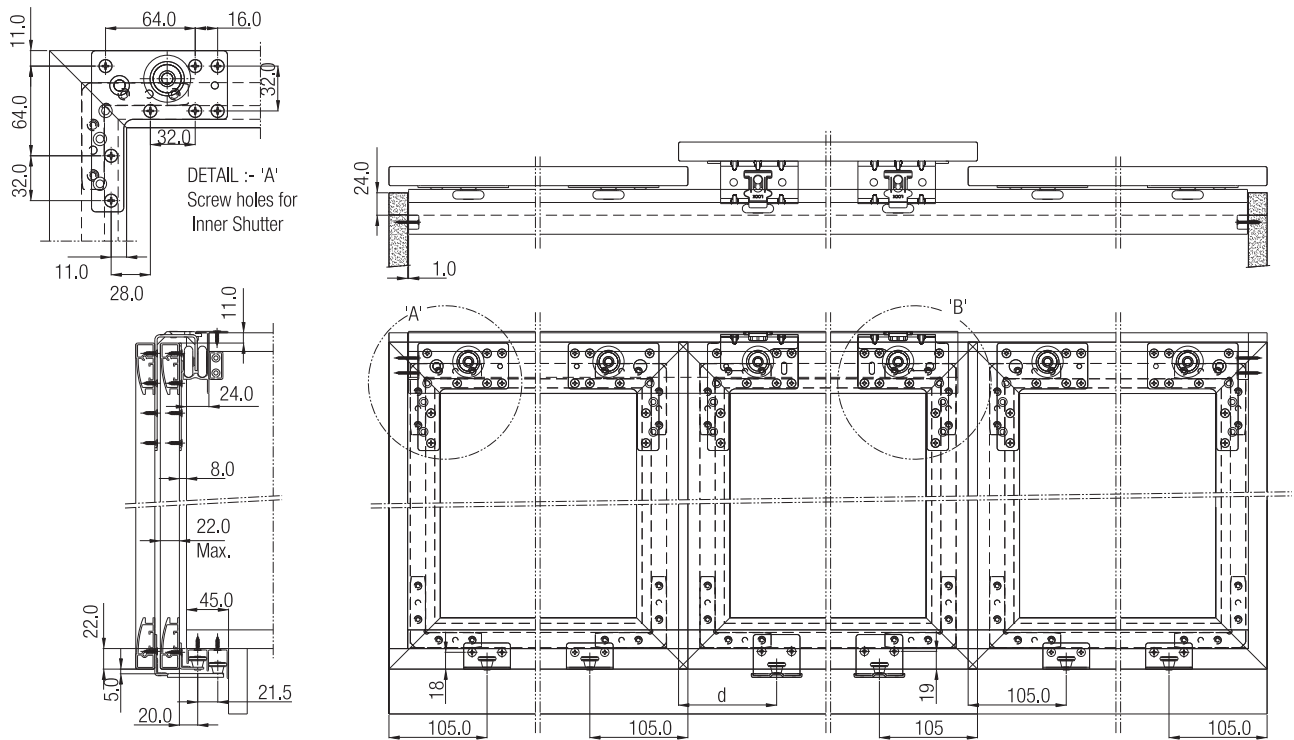
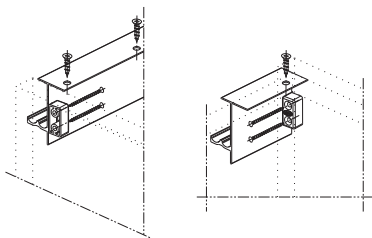
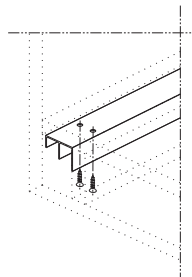

Fig. 1.
Fig. 2.
Fig. 3.
1. Fit the Top Track to the top face of the cabinet as shown in Fig 2. (for dimensions refer Fig. 1.)
2. Fit the Top Track support behind the top track & to the inner side face of the cabinet as shown in Fig 2.
3. Fit the Bottom Track to the bottom face of the cabinet as shown in Fig 3. (for dimensions refer Fig. 1.)
4. Fit the Top Hanger Outer to the inner face of the Outer Shutter & Top Hanger Inner to the inner face of the Inner shutter as shown in Fig 1.
5. Fit the Bottom Guide Outer to the inner face of the Outer Shutter & Bottom Guide Inner to the inner face of the Inner shutter as shown in Fig 1.